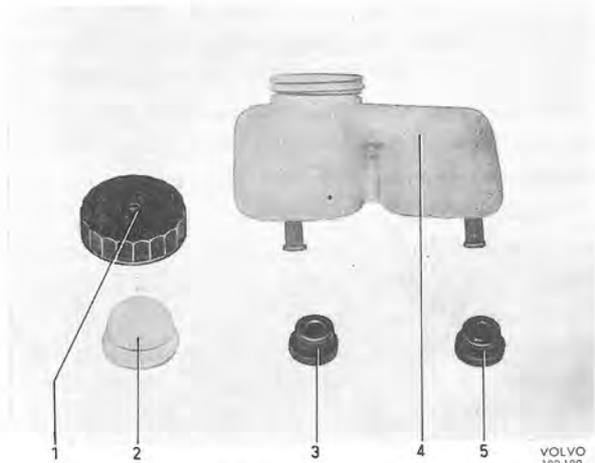
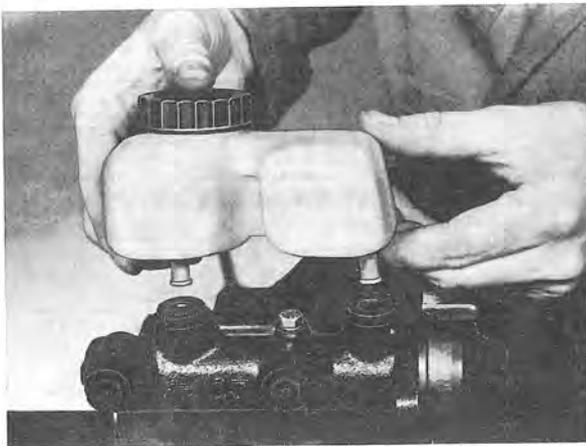
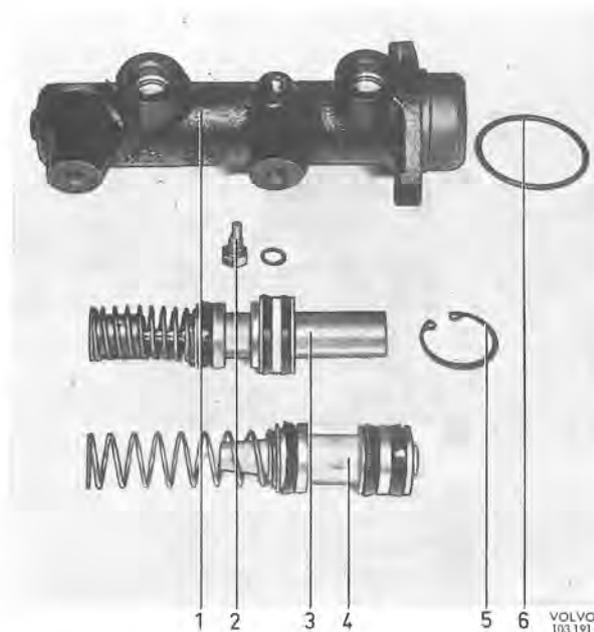
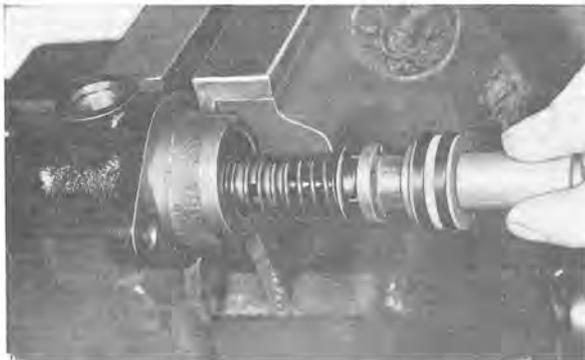

Fig. 5-46. Container parts
Fig. 5-45. Removing the container
Fig. 5-48. Master cylinder dismantled
Fig. 5-52. Fitting the primary piston
1. Fix the flange of the master cylinder firmly in a vice, see Fig. 5-45.
2. Place both hands under the container and pull it up from the rubber seals. Remove the filler cap and strainer from the container and also the rubber seals from the cylinder, see Fig. 5-46.
If wear on the cylinder or secondary piston is suspected, the diameter should be measured with a micrometer or indicator. The cylinder bore must not exceed 23.92 mm (0.942") and the diameter of the piston may not be less than 23.66 mm (0.931"). Each time reconditioning is carried out, replace the primary piston (3, Fig. 5-48) and the secondary piston (4, Fig. 5-48) complete as well as the stop screw (2) with washer and circlip (5), also the sealing ring (6). Moreover, the rubber seals (Fig. 5-46) for the container should be replaced.
4. Dip the piston and the seals in brake fluid and fit the piston in the cylinder, see Fig. 5-52. Press in the piston and fit the circlip (5, Fig. 5-48).
5. Check that the hole for the stop screw is clear and fit the screw (2, Fig. 5-48) with a new sealing washer. The tightening torque is 0.0—0.8 kpm (3.6—5.7 lb.ft.).
- Fit the rubber seals (3 and 5, Fig. 5-46). Fit the brake fluid container, see Fig. 5-45. Fill the container with brake fluid and vent the cylinder. Place plastic plugs in the cylinder. Check to make sure that the vent-hole in the cap (1) is open and fit the strainer (2) and cap in position.